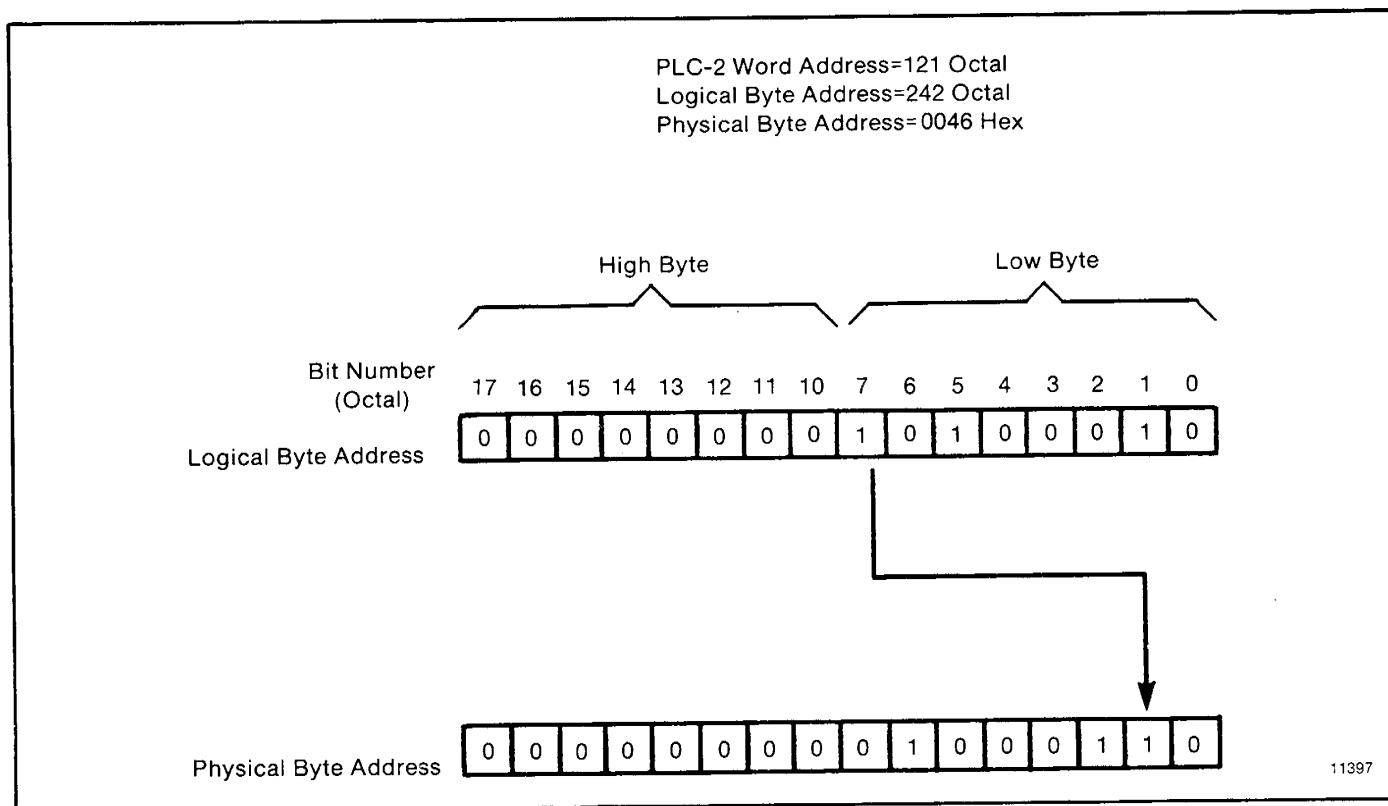

Figure 6.8 — Converting PLC-2 Logical to Physical Address
6.2.2.2 PLC-2 PLC-2 controllers use physical addresses that are directly related to the logical addresses. To convert a given logical address to its corresponding physical address, move bit 7 of the logical address to bit position 1 and shift bits 1 through 6 to the left one position. Figure 6.8 illustrates the conversion process for logical word address 121. Remember that the logical PLC-2 address is a byte address, so the physical address will also be a byte address.